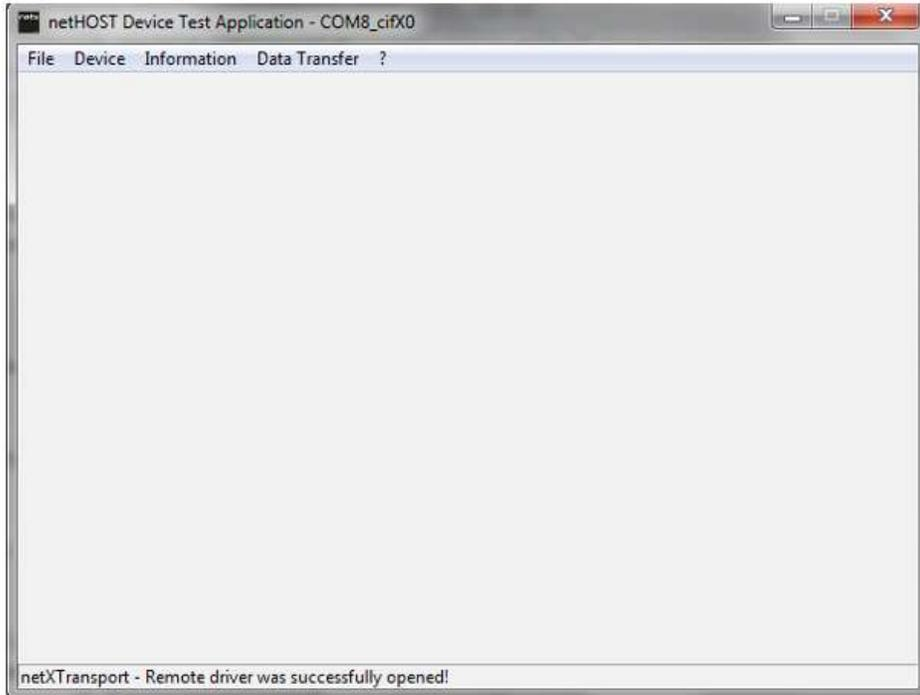

Figure 42: Remote driver was successfully opened [netHOST\_open\_succes]
17. The pop-up "netHOST Device Test Application – COM8\_cifX0" opens with (on the bottom line) the message "netXTransport – Remote driver was successfully opened!". (Figure 42, ¶ STMA-69239);